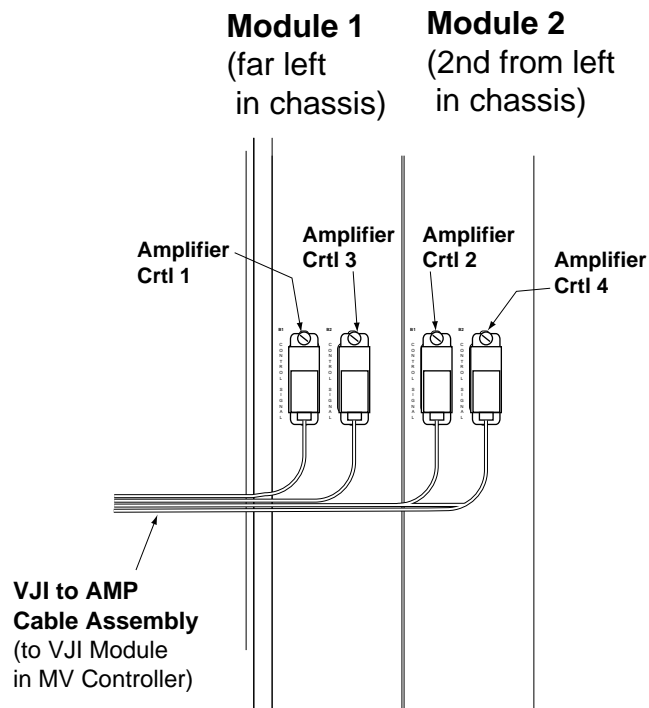

Figure 5-9. Power Chassis to VJI Cable Installation, Model 3303
2. The other end of the cable with four plugs must be connected in the following *special pattern*. See Figure 5-9.